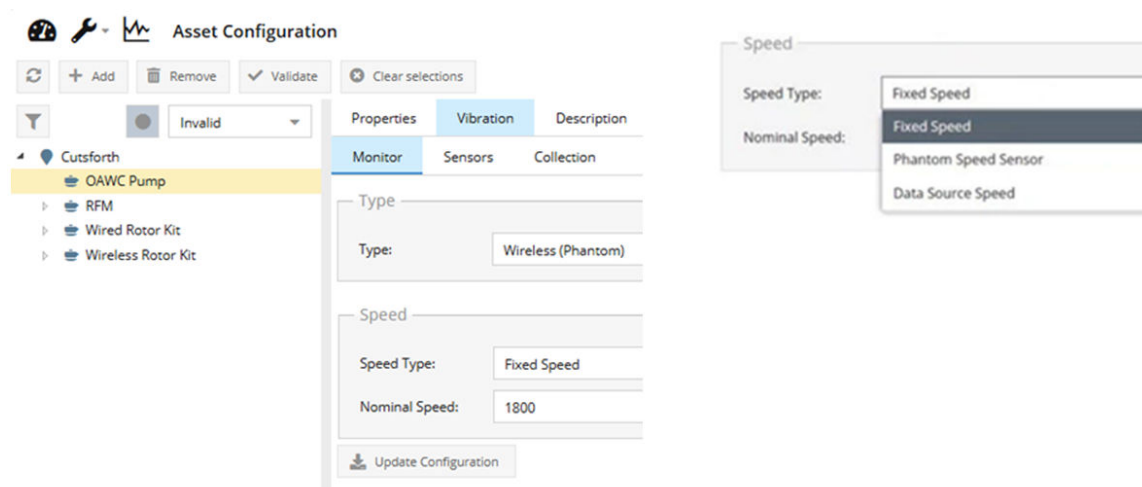

Figure 19. Setting the Speed Type for the Phantom Sensors
1. Rotating Equipment has three Speed Types available in the Monitor tab: Fixed Speed, Phantom Speed Sensor, and Data Source Speed. In many cases, machines run at a fixed speed (see Figure 19).